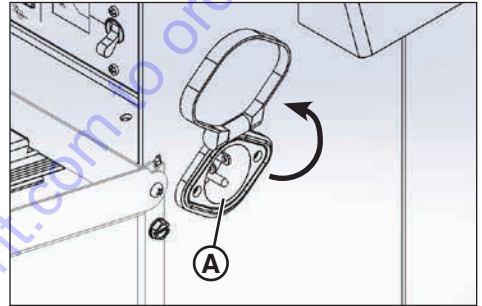

Figure 8
2. Connect a heavy-duty, exterior-use power cord (15 amp) from the power outlet on the side of the unit (A, Figure 8) to a 120-volt AC power source. See **Specifications**.